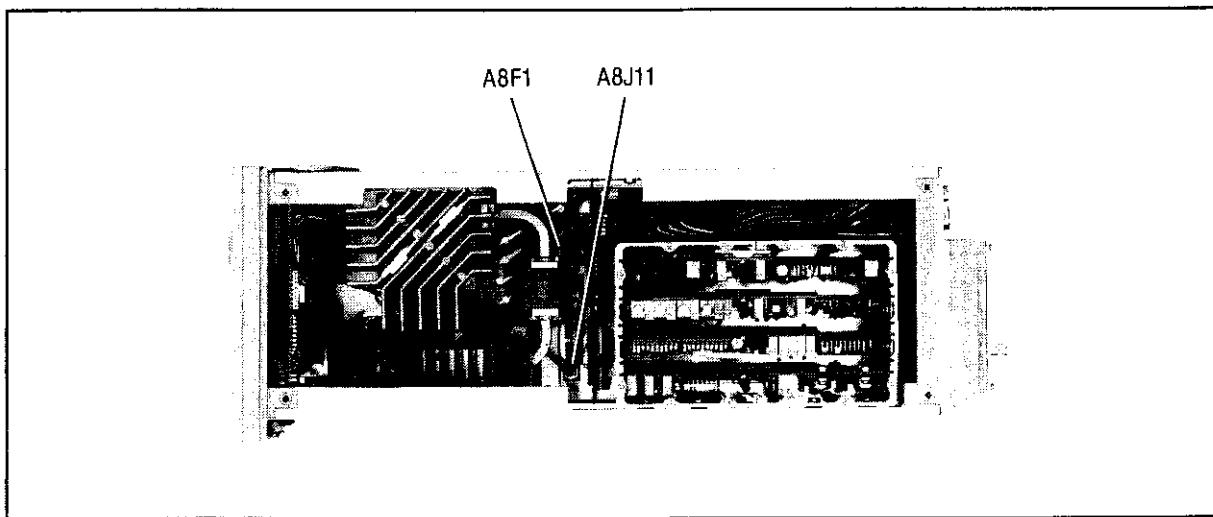

Figure 5-3. Wiring Harness Connector and Fuse Locations
1. Turn AC line power off. Disconnect the YO wiring harness from A8J11. Remove the fuse A8F1. (See Figure 5-3 for wiring harness connector and fuse locations). Return AC line power to the instrument.